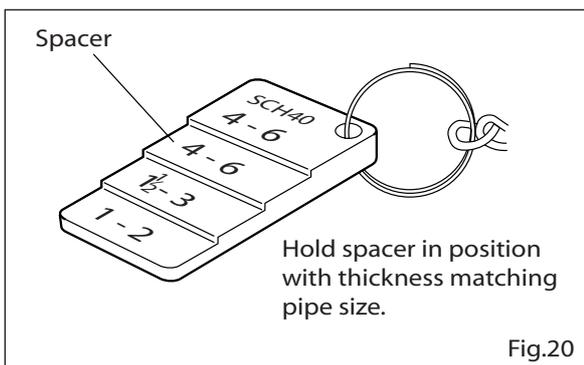

Fig.20
- \* Hold the spacer in position so that the thickness matches the size of the pipe you are working on. (Fig. 20)